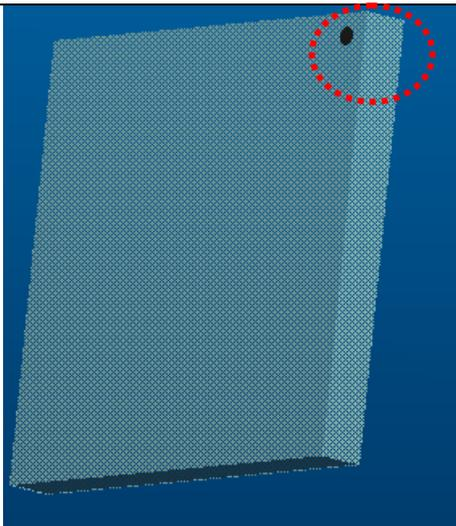

Fig. 1-6
- i. Front Glass UV coated surface (marked) must face to Lamp. (Figure 1-6)